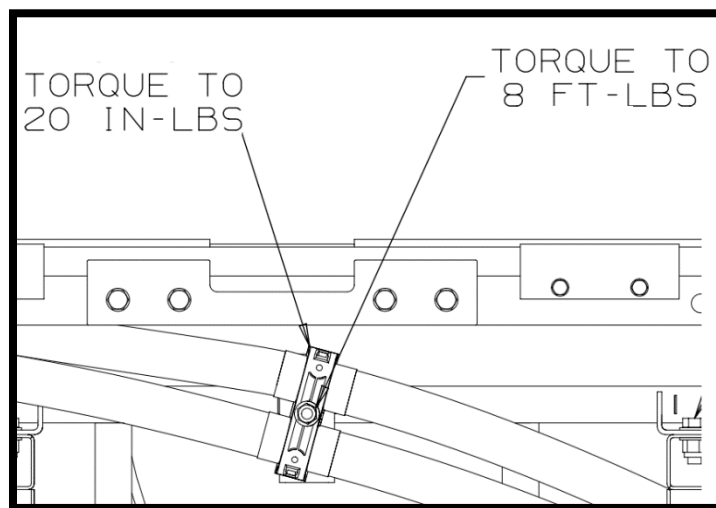

Figure 5 - HV cable securements
13. Apply heat shrink 251215 to the cable lug ends and over the cable sheathing. See Figure 5.
19. Re-install the cable clamps removed to complete the rework and torque the clamp securement center bolt to 8 FT-LBS and the two bolts holding the clamp to 20 IN-LBS (figure 5).